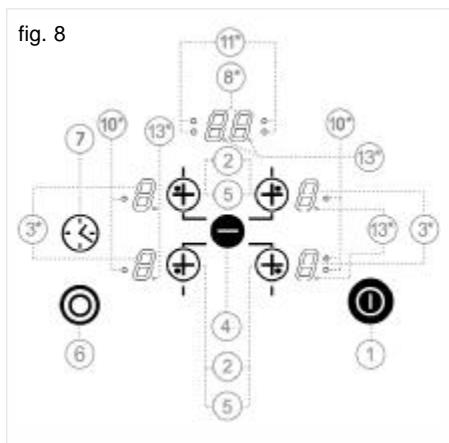

fig. 8
- 3 Power and/or residual heat indicators (also shows that blocking is activated on models shown in figure 8).
To do anything with a hotplate, it needs to be selected. When you want to use a hotplate, check that the corresponding luminous point (13) is lit up. If after the hotplate has been selected you touch its sensor again, it will be blocked in the power position that was set (except on models shown in figure 8).
**To turn a hotplate up to full power quickly:** Once the hotplate has been selected, touch sensor  (4) once, and the hotplate will be switched on to full power.
- 2 Use sensor  (4) to decrease the power to level 0. The hotplate will automatically switch off.
### Unblocking in order to cook (only on models shown in figure 8)